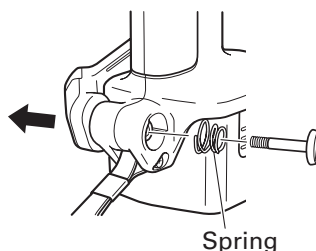

Fig. 7
- Remove the hook and spring. (Fig. 7)